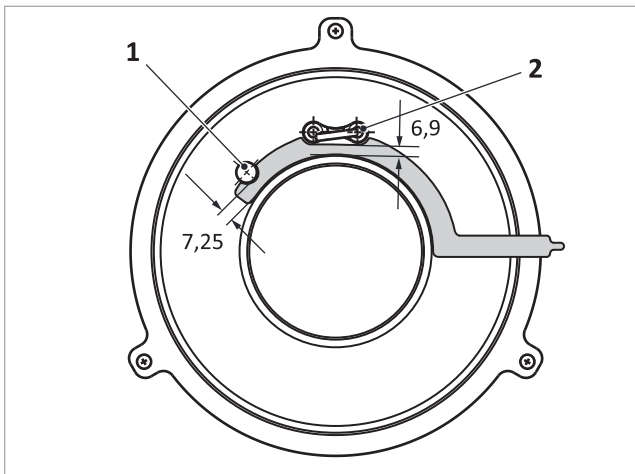

Fig. 110: Clearance from ionisation electrode and ignition electrode to burner tile
- Ionisation electrode → fig. 110 (1): 7.25 mm
- Ignition electrode → fig. 110 (2): 6.9 mm